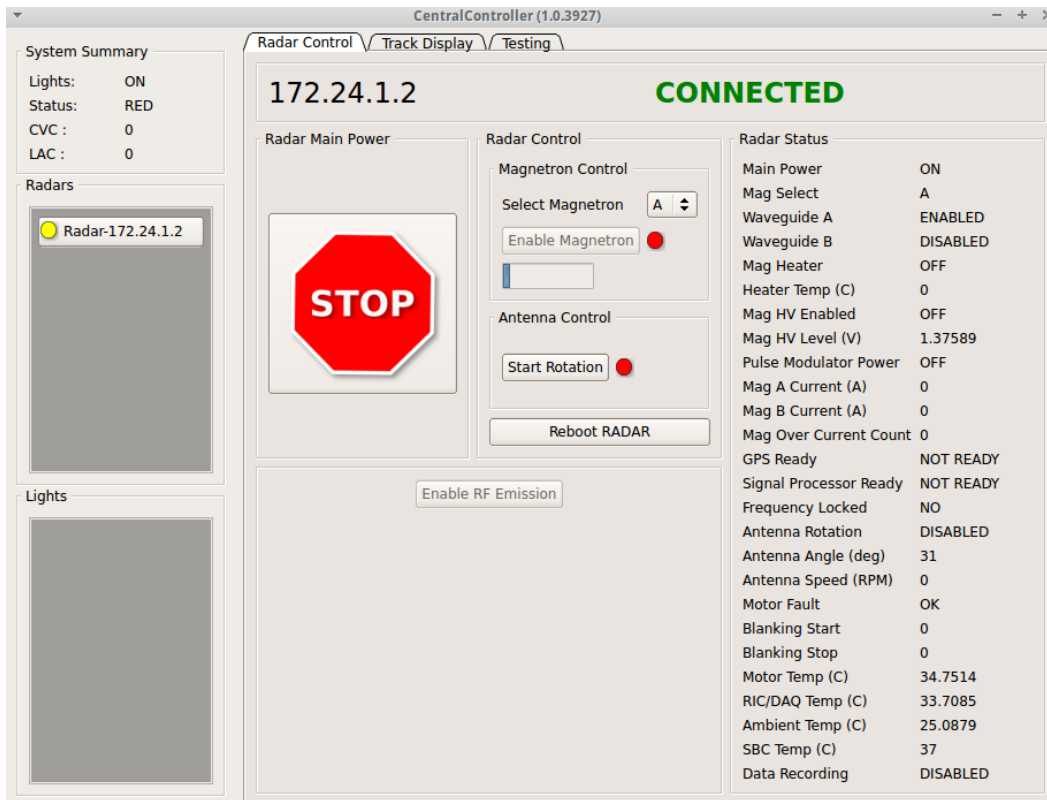

Figure 8. Radar Control GUI when connected to a Pulse Doppler Radar.
5. When the Radar Control GUI has connected to the Radar Processor and the “Main Power On” has been selected, the GUI should resemble that shown in Figure 8. Note that the Radar Status values in the right-hand column are updated periodically.